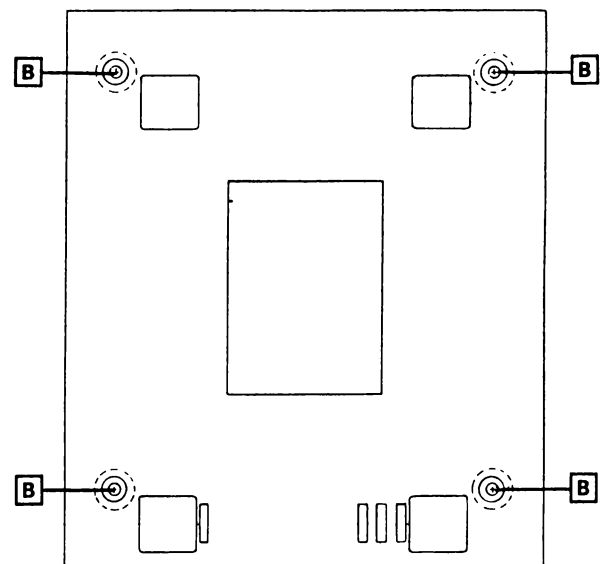

Fig. 2-3. Bottom View
2.3.1 Turn the external drive up-side down and remove the 4 screws from the hollows of the bottom housings. See Fig. 2-3.